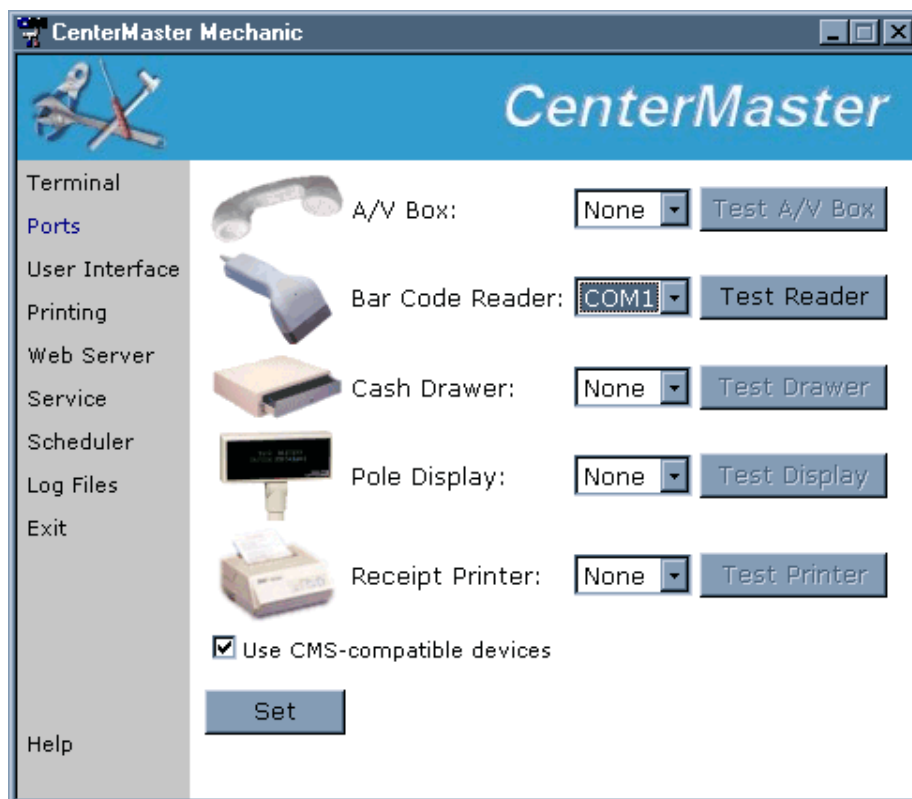

Figure 6
8. Click **Start/Run**. This will display the "Program Run" window. Type in: **c:\centermaster\tools\cmmechanic\cmmechanic.hta**, then click **"OK"**. This will bring up the "CM Mechanic" screen. Refer to Figure 6.